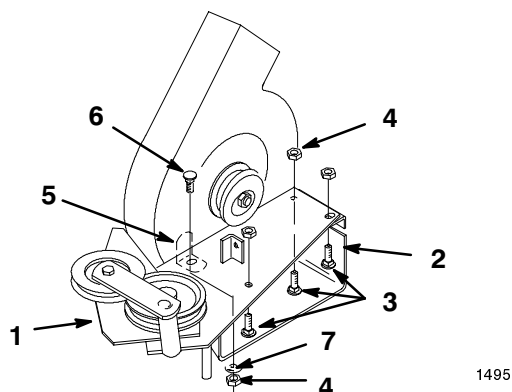

Figure 6
1. Assemble blower mounting plate to blower with (3) 5/16 x 3/4" (19 mm) carriage bolts and 5/16" flange nuts (Fig. 6).
2. In the front inside hole of the blower insert a 5/16 x 7/8" (22 mm) carriage head bolt, item 6 (Fig. 6).
3. Inside the blower housing, slide the L-bracket over the bolt. Hold the L-bracket tight against the blower housing wall and secure with 5/16" washer and 5/16" flange nut (Fig. 6).